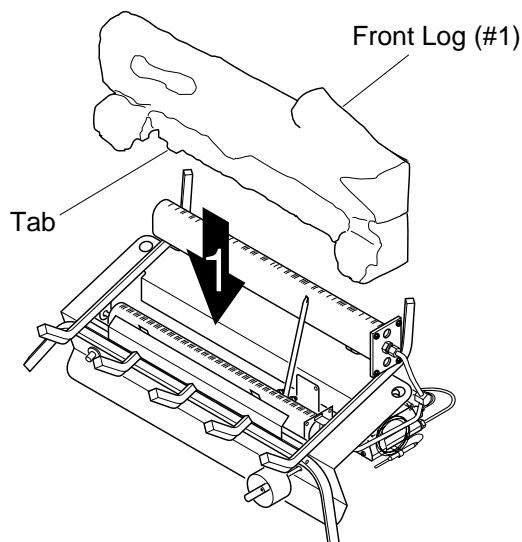

Figure 16 - Installing Front Log
1. Slide front log (#1) into place behind front burner. Make sure tabs at bottom of log are behind front burner (see Figure 16).